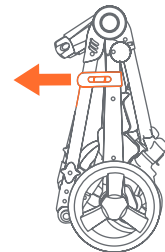
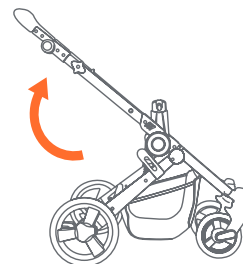

Fig. 16a
Fig. 16b
- 16) • Unlock the release lever (Fig. 16a) and unfold stroller frame by pulling upward on the stroller handle until the frame locks (Fig. 16b).